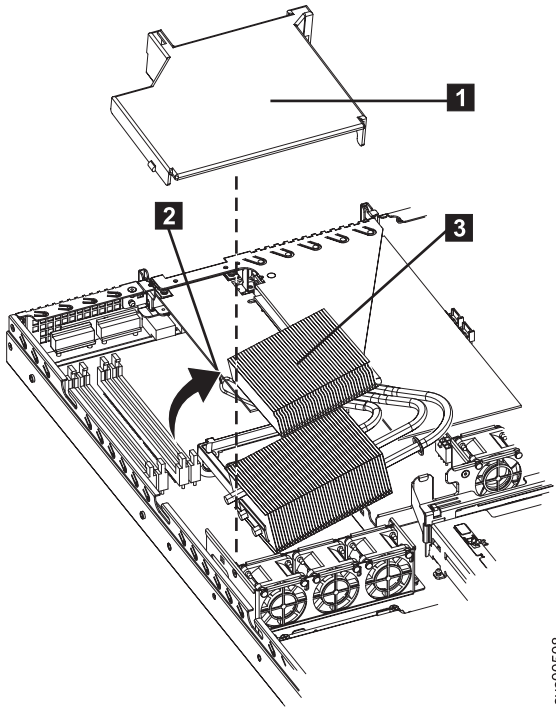

Figure 246. SAN Volume Controller 2145-8A4 air baffle and heat-exchanger assembly
5. Remove the air baffle (**1** in Figure 246 on page 224). Grasp the air baffle by the leftmost and rightmost rear corners and lift it up out of the node.
6. Open the heat-exchanger-assembly release latch (**2** in Figure 246) to the fully open position.
7. Lift the side of the heat-exchanger assembly (**3** in Figure 246) that is closer to the middle of the node, slide it toward the middle of the node slightly, and lift the entire assembly out of the node.